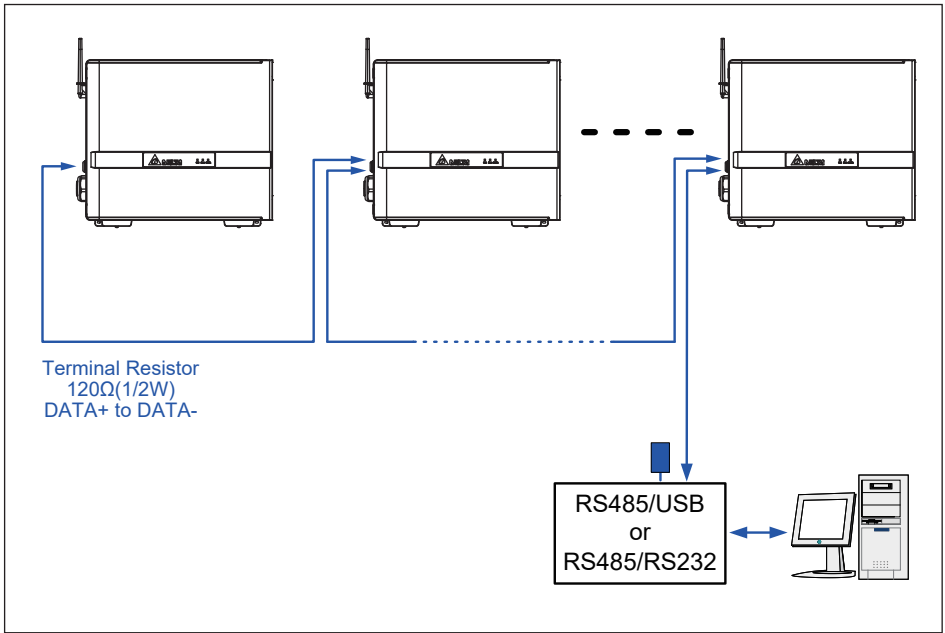

Figure 3-25: Multiinverter connection illustration
A 120ohm bus termination resistor and associated control switch are located on the communication board (**Figure 3-25**). **Table 3-3** shows the switch function. Different RS-485 connection scenarios require different set up for the 120ohm bus termination resistor.
- When several inverters are cascaded (i.e., "daisy-chained") only the last inverter in the chain must have its bus termination resistor switched ON (**Figure 3-25**).